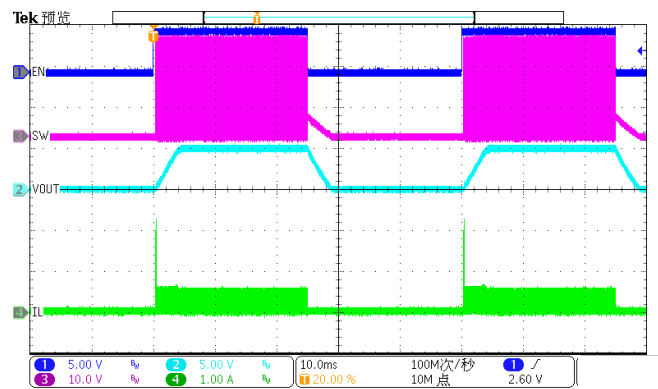

Figure 15. EN Toggle, IOUT=0.1A
The SCT9330C features external programmable output voltage by using a resistor divider network R1 and R2 as shown in the typical application circuit Figure15. Use equation (11) to calculate the resistor divider values.